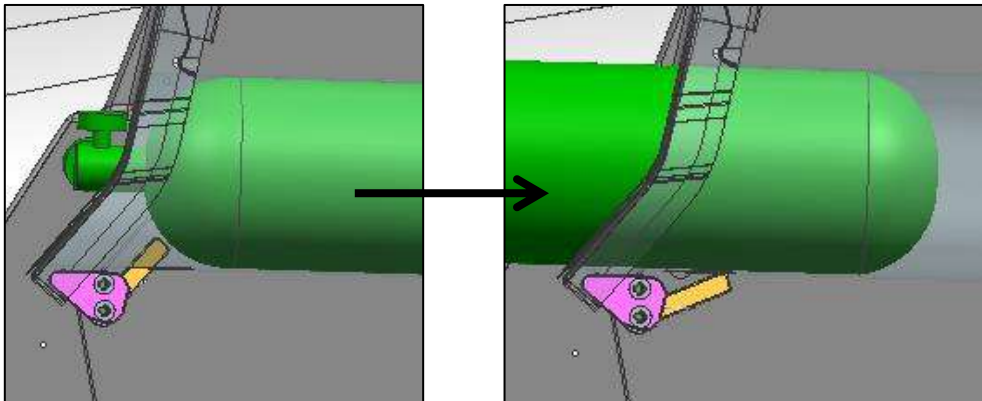

Figure 35-3: Oxygen bottle lock
2. Slide the bottle all the way to the end of the tube. Ensure that the lock lever rises to engage with the valve end of the bottle (Figure 35-3).
1. Press the lock lever down below the surface of the tube (Figure 35-3)